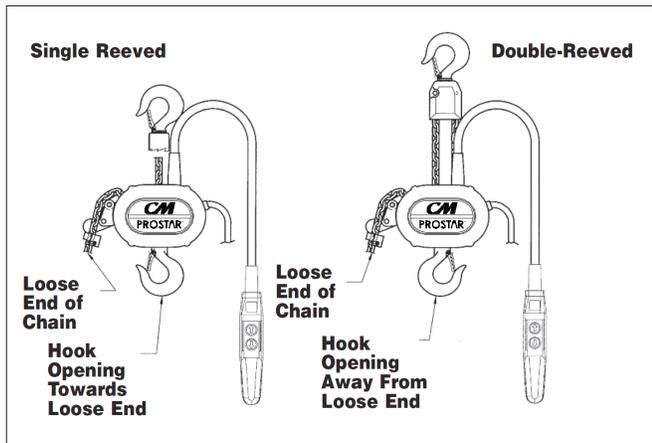

Figure 17 – Chaining Diagram
10. Properly install the upper hook as shown in Figure 17, then slide the hook retainer into the cavity on top of the hoist and secure it using hook retainer screw. Tighten screw to a seating torque of 10 in. lbs. (1.1 NM).